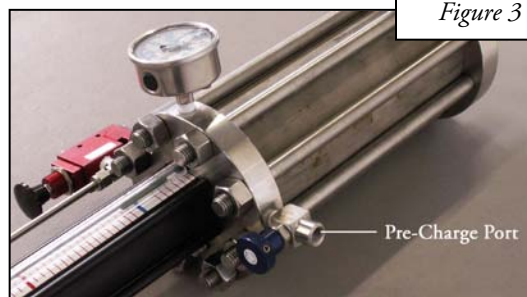

Figure 3
- Use small diameter stainless steel tubing to connect the pre-charge valve to the regulated auxiliary gas supply. If you have the premium purge model, connect from the gas supply to the pre-charge inlet port (see Figure 3).